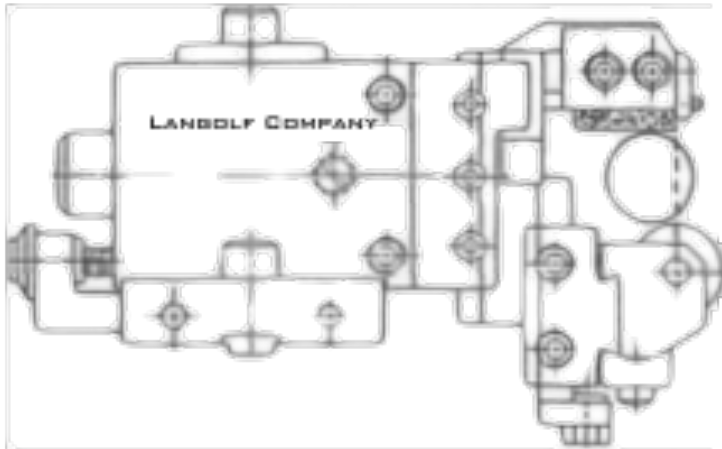

Figure 25
1. Holder set up too far forward (Figure 25)